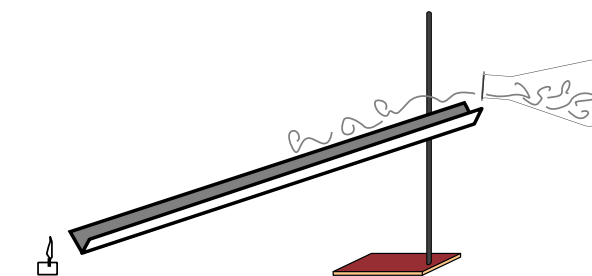

Figure 1.
2. Prepare a vapor ramp by elevating one end of the aluminum angle bracket using a support stand and clamp. The ramp should be at a 20° angle or about 20 cm elevation (see Figure 1).
3. Place an unlit candle on the countertop directly below the lower end of the vapor ramp (see Figure 1).